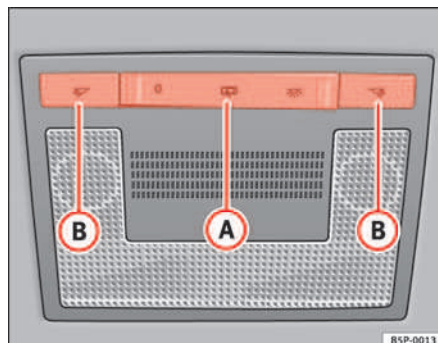

Fig. 80 Detail of the roof:
The switch ⇒ fig. 80 (A) is used to select the following positions:
Turn the knob to the position 0 ⇒ fig. 80.